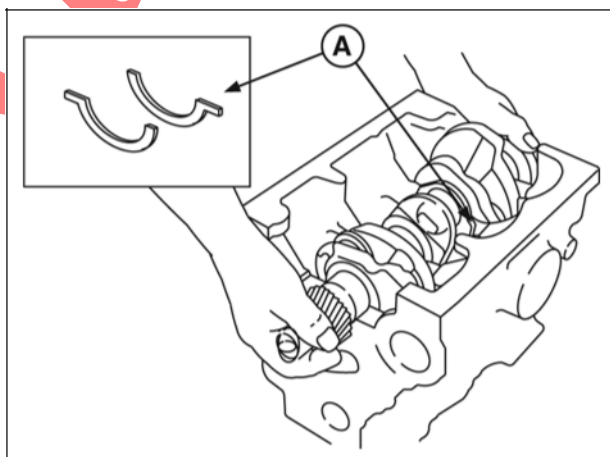

Figure 8
11. Remove crankshaft (A, Figure 8).